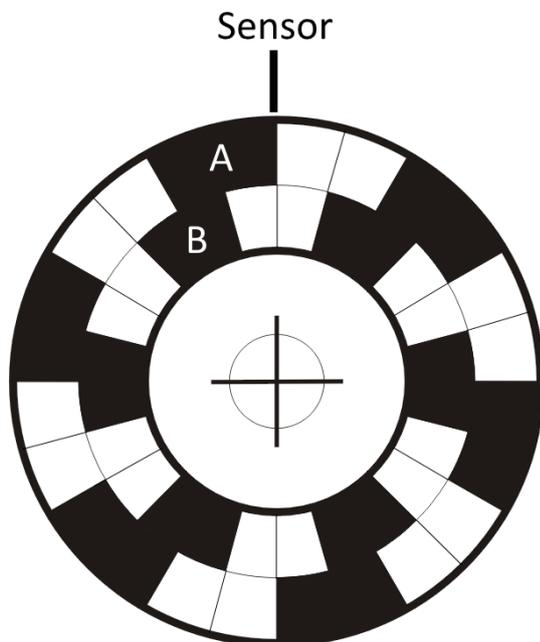
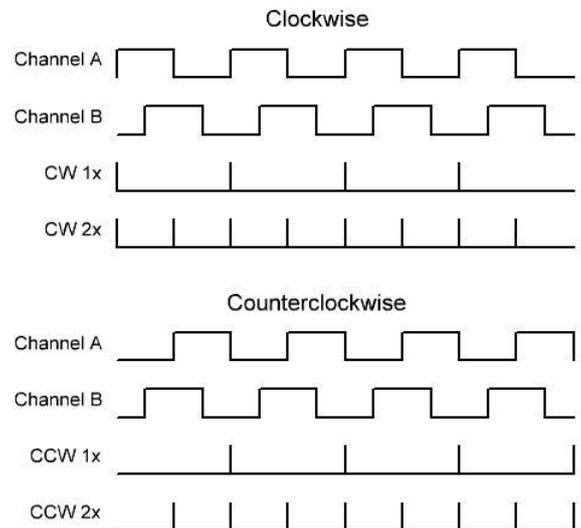

Figure 1. Quadrature Encoder
Figure 2. Quadrature signals
This app note will explain how to create an Unclocked Quadrature Decoder with a GreenPAK4 device. Quadrature Decoders translate signals received from Quadrature Encoders similar to the one shown in Figure 1. They are used in a mechanical system to determine rotation around an axis.
Quadrature decoders generate two square waves, which are typically designated as Channel A and Channel B. These signals have a 90 degree phase difference as shown in Figure 2. The state transition outputs, or the rising and falling edges of Channel A, can be used to determine the degree of dial rotation or number of steps moved. In this application, there are two possible units of measurement: 1x and 2x.
Take a look back at Figure 1. When Channel A's rising edge leads Channel B, the rotation around the axis is in the clockwise direction. Alternately, when Channel B leads Channel A, the rotation occurs in the counterclockwise direction. In Figure 2, if you count the number of rising edges on Channel A in the clockwise direction, you can conclude that the axis moved by 4 steps. However, if you count both rising and falling edges of Channel A, the axis moved by 8 steps. The further the mechanical dial turns, the more pulses are generated.
In this App Note we will design a system that receives three inputs and has two outputs. The first two inputs are the Channel A and Channel B quadrature signals, while the third input is a selector bit to control whether the outputs will be 1x or 2x as shown in Figure 2. One output indicates clockwise movement (CW) and the other counterclockwise movement (CCW).